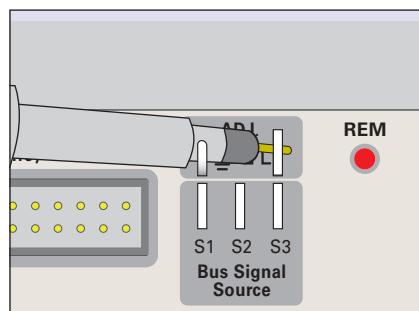

Fig. 4.3: Correct connection of the probe to the probe adjust output
Passive probes be compensated prior to first use. Please refer to the probe manual for the proper compensation procedure. Place the probe in the appropriate position on the ADJ. output such that the tip will be accepted by the hole of the right output while the ground connection is made to the left output, as shown in Fig. 4.3 in chapter 4.
**The PROBE ADJUST output of the HMO oscilloscope is only suitable for 1:1 and 1:10 probes. 100:1 or 1000:1 probes require special generators! Use the shortest possible ground connection to the PROBE ADJUST output as shown in Fig. 4.3.**